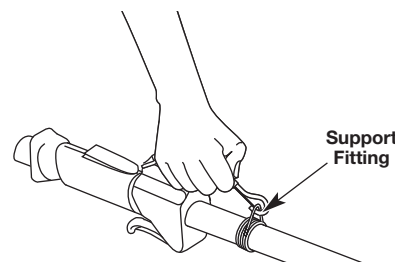

Fig. 8
3. Put the harness on over head and onto shoulder. Snap it on to the support fitting (Fig. 8).